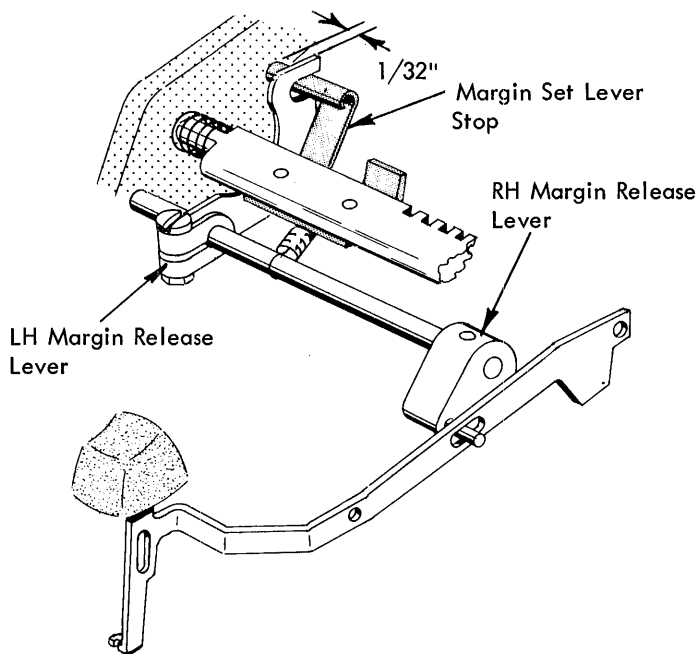

FIGURE 249. Margin Release Mechanism (15 Inch - Late)
1. Laterally so that 1/32" of the rolled pin on the margin set lever stop protrudes beyond the left face of the left hand margin release lever (Fig. 249).